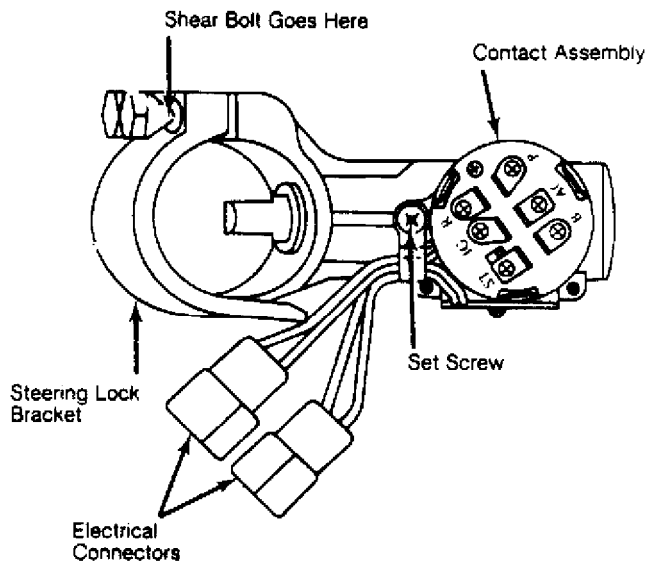

Fig. 2: Exploded View of Ignition Switch (Exc. Pickups)
2) Remove screw attaching switch contact housing to steering lock body and slide out contact housing. See Fig. 2.